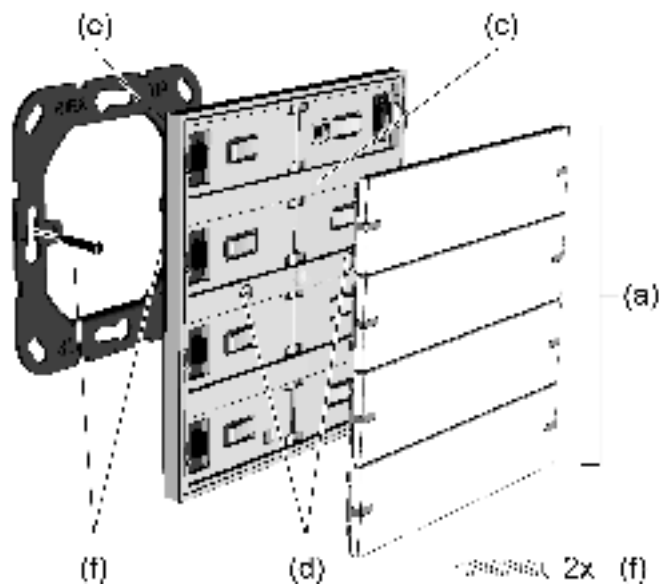
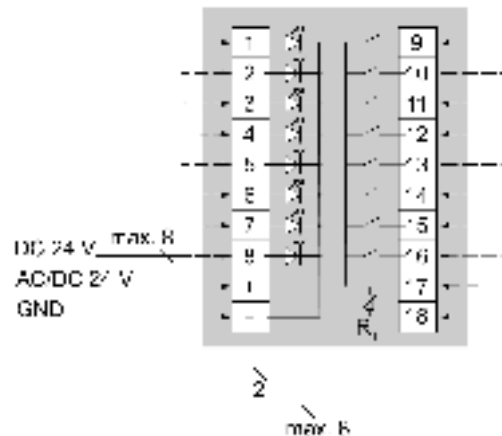

Figure 2: Fitting the device
Figure 3: Connection of 4-gang push-button sensor
Exploded view (see figure 2)
Mounting and connecting the device (see figure 2), (see figure 3)
- Connecting the push-button sensor (c) according to (see figure 3)